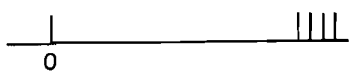

Fig.1.1: Random errors lead to a scatter of readings
- ii) **Random errors:** Random errors arise from various accidental errors in the measurement process. For example, in measuring the dimensions of a basketball court, you may make a mark slightly to the left or right of the exact length and/or breadth. This will introduce an error in the reading. And if you repeat your measurements, you may not obtain the same value. That is, the readings show a scatter, as shown in Fig.1.1.